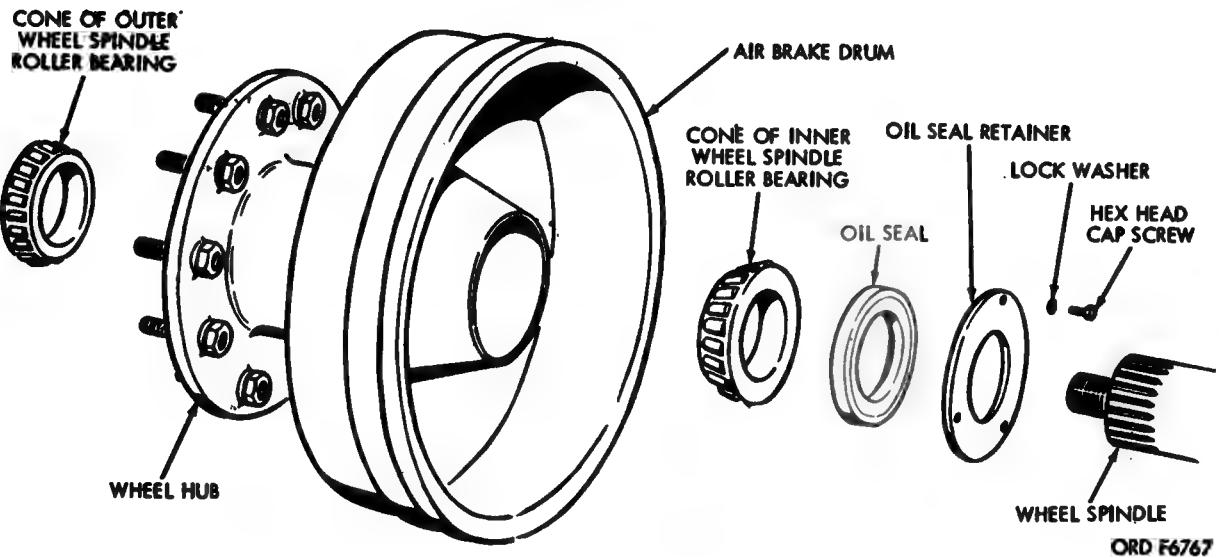

Figure 148. Wheel hub and drum—exploded view (M123A1 only).
- (5) Remove the drive ring and drive ring gasket (fig. 148) (M128A1 only).
- (6) Tip out the top of the wheel and tire assembly to allow the wheel to clear the hub and roll the wheel and tire assembly out of the way.